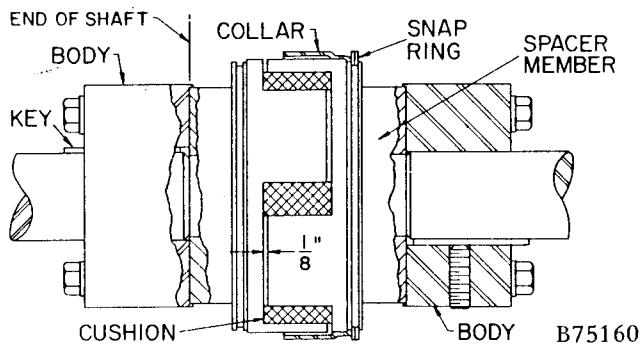

FIGURE 1-7. — COUPLING
**COUPLING** (Figure 1-7) — The motor and compressor are direct connected by a resilient cushion type flexible coupling. The coupling has a removable spacer center section with several individual cushions. The coupling does not require lubrication.
4. Position the compressor and motor so that an 1/8" gap exists between the ends of the jaws of one spacer member and the flange of the opposite spacer member, Figure 1-7.
8. Insert the individual cushions and slide the outer collar over the cushions, Figure 1-7, and secure snap ring or replace cap screws.